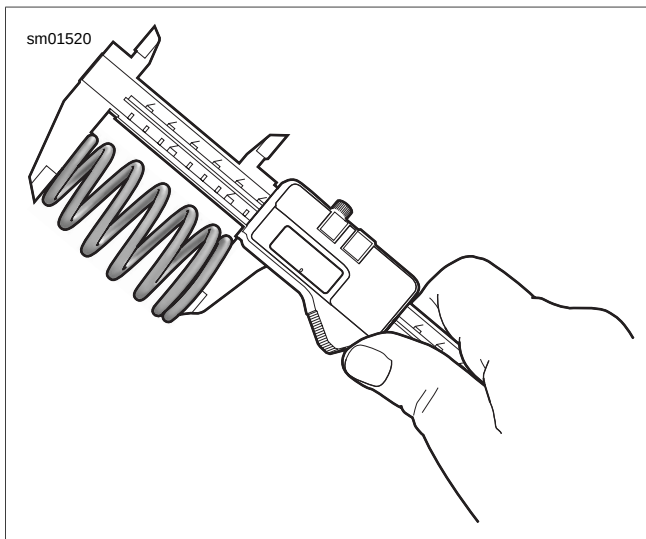

Figure 3-121. Checking Spring Free Length
2. See Figure 3-121. Check free length of each spring with caliper as shown. Test compression force of spring using